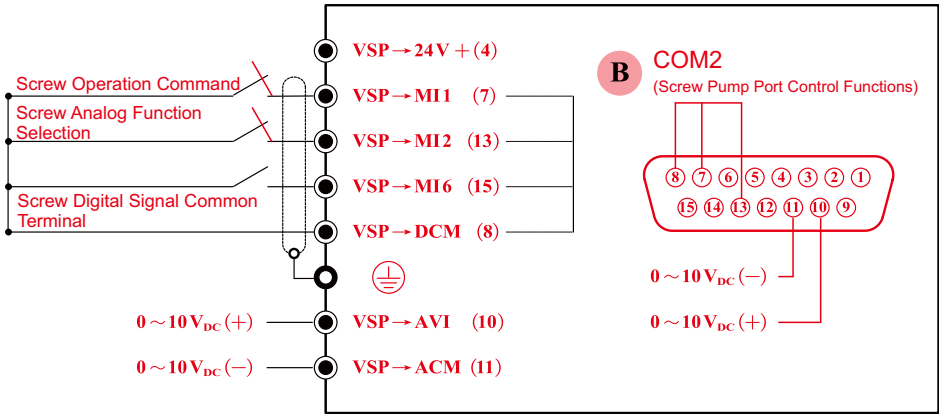
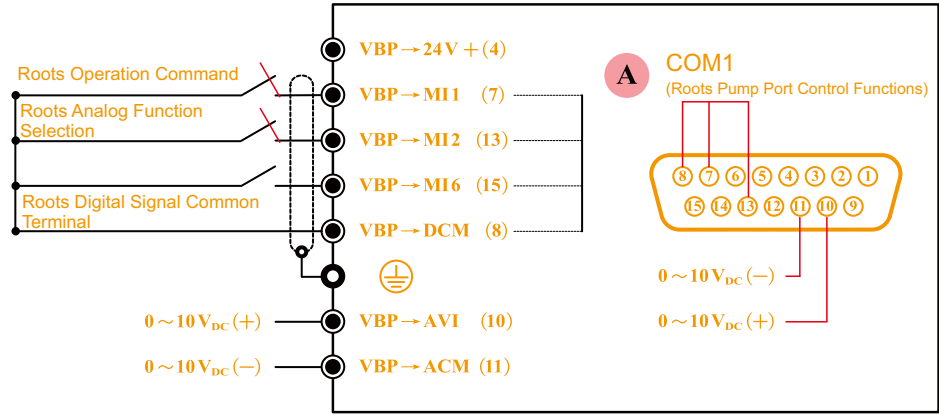

Figure 9 Screw Pump Analog Control Wiring Diagram
Figure 10 Roots Pump Analog Control Wiring Diagram
2.2 For the screw pump, short VSP-MI1, VSP-MI2, and VSP-DCM to enable the analog control command, and connect the analog signal to VSP-ACI and VSP-ACM, as shown in Figure 9. For the Roots pump, short VBP-MI1, VBP-MI2, and VBP-DCM to enable the analog control command, and connect the analog signal to VBP-ACI and VBP-ACM, as shown in Figure 10 (Note: Figure number corrected per context).